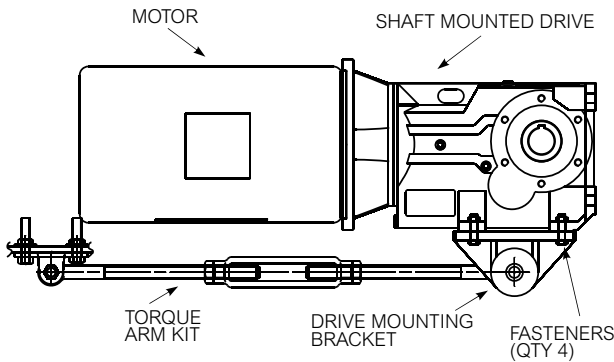
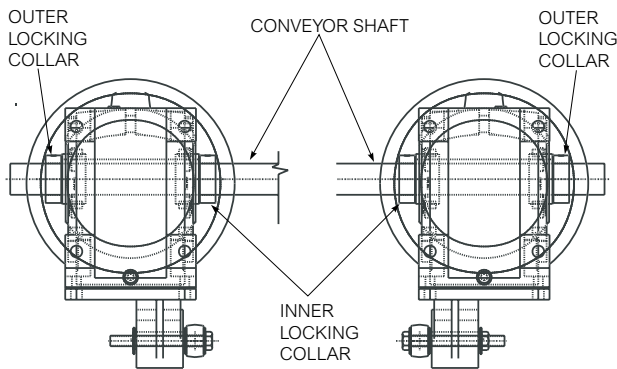

Figure 1 – RUS Shaft Mounted Drive
Figure 4 — Mounting Configurations (Ultramite)
This manual provides detailed instructions on the installation of Ultramite UB and Omnibox WBQM shaft mounted gear drives that are installed as a standard in the horizontal position (see Figures 1, 7 and 13) on a MatTop Chain Roller Upgrade System (RUS). Use the table of contents below to locate required information.
The Rexnord gear drives offered with the MatTop Roller Upgrade System consist of either an Ultramite UB or Omnibox WBQM shaft mounted drive, which is positioned at the conveyor discharge end. These drives have a hollow low speed shaft and are mounted with a torque arm. A typical shaft mounted drive with an adjustable tie rod style torque arm is shown in Figure 1.
- 2.0 Install the drive mounting bracket and provided fasteners to the Ultramite drive as shown in Figure 1. Tighten either the 3/8-16, 7/16-14 or 1/2-13 fasteners to 31, 50 and 76 lb-ft, respectively. Do NOT lubricate fasteners. Refer to Figure 4 for acceptable mounting configurations.
- 5.0 Install the inner locking collar shown in Figure 4 to the conveyor shaft.
- 7.0 Lift the Ultramite drive and motor assembly into position and slide onto the conveyor shaft taking care that the driven shaft key seats into the hollow shaft keyway. Position the drive as close as possible to the conveyor frame. DO NOT hammer or use excessive force. Refer to Figure 4 for acceptable mounting configurations.